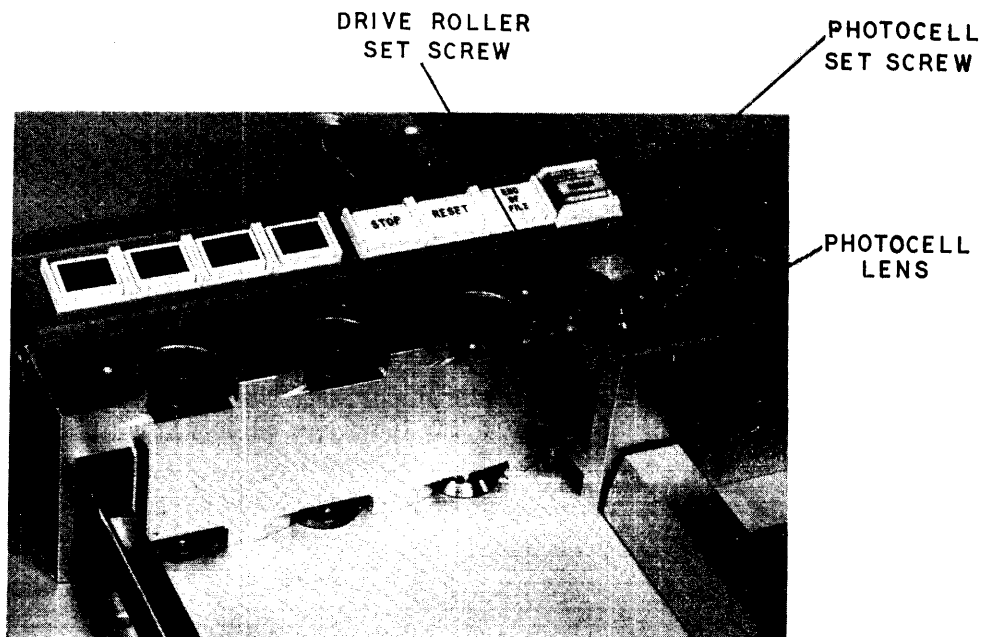

Figure 6-5. Location of Photocell and Photocell Set Screw
- a. Using a 1/16 Allen screwdriver, LOOSEN the set screw in the drive roller and remove the roller, figure 6-5.